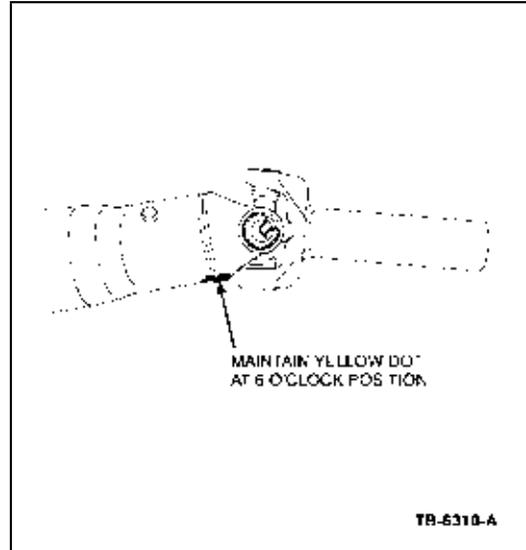

Figure 4 - Article 01-8-3
3. Remove driveshaft bolts and rotate the driveshaft so that the front yellow dot is on the bottom (6 o'clock position) (Figure 4).